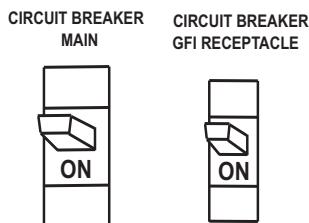

Figure 27. Main and GFCI Circuit Breakers
11. If there are no abnormal problems shown on the MPEC LED display, turn both the MAIN and GFCI circuit breakers to their ON position (Figure 27).